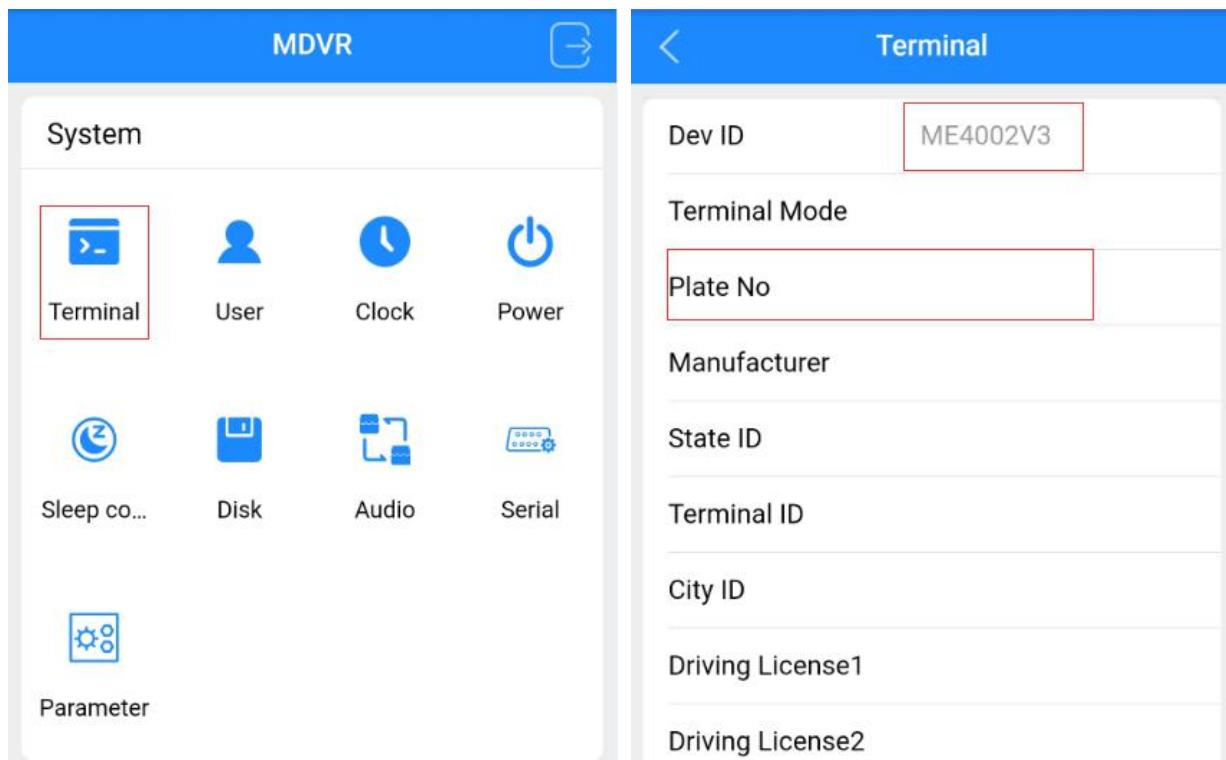

Fig.3.11 Device ID
Step3: Set a unique **device ID** for it, it will be used for adding device onto the platform (Fig.3.11)
Step 4: Select the H-protocol, input the server IP address and port. (Fig.3.11)